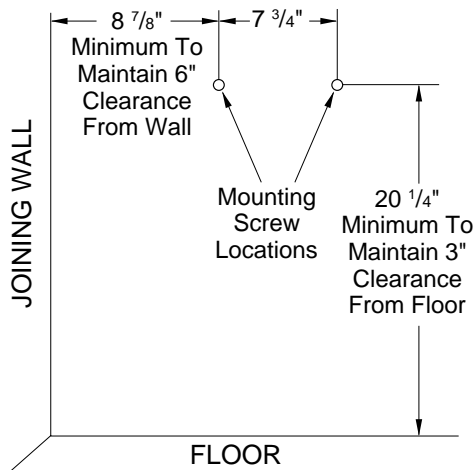

Figure 3 - Mounting Screw Locations
**⚠ WARNING: Maintain minimum clearances shown in Figure 3. If you can, provide greater clearances from floor and joining wall.**
2. Mark two mounting screw locations on wall (see Figure 3).